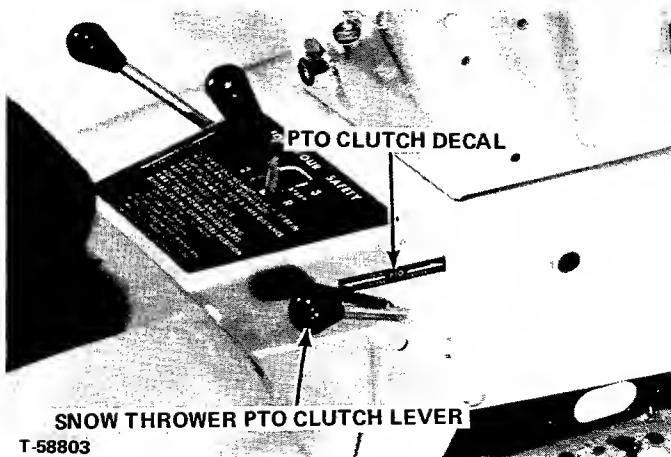

FIGURE 17
10. Install the PTO clutch decal on the tractor R.H. frame directly above the snow thrower PTO clutch lever as shown in Figure 17.